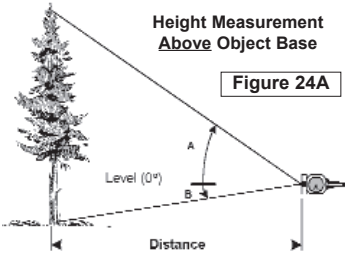

Figure 24A
2. Apply height calculation as shown in figure 24A or 24B.
1. Sight % grade using level or sloping ground, same as in Figures 24A & 24B.